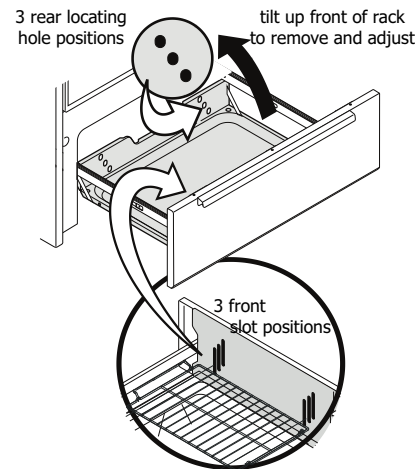

Figure 16: Setting broil rack
4. Make sure broil rack is level. (Figure 16)